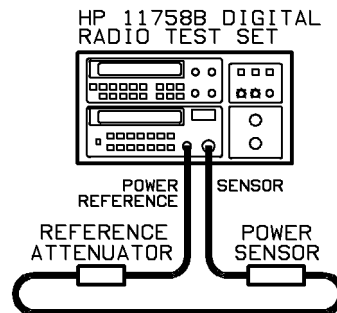

Figure 2-4. Power Meter Verification Setup
- a. Set up the power meter as shown in Figure 2-4.